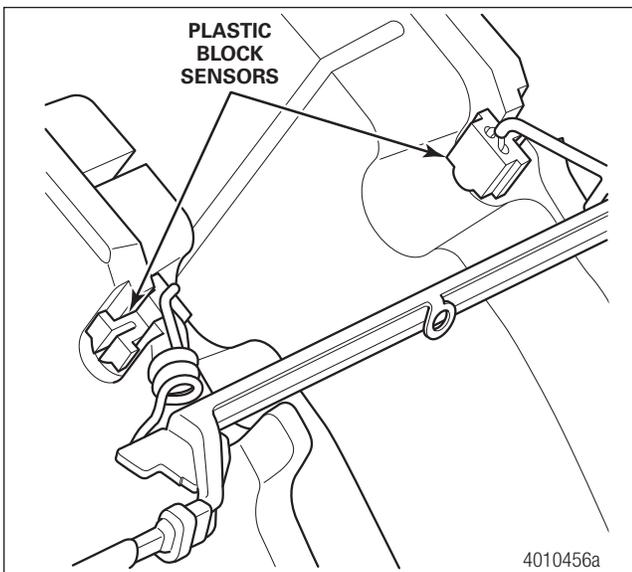

Fig. 6.21 PWWI Plastic Sensor Blocks Installation
- Carefully hold the pad retainer with the PWWI in position to allow for installation of the plastic sensor blocks. Install the plastic blocks of the PWWI into the pads. Do not use excessive force, but ensure they are pushed to the bottom of the slot. Figure 6.21.